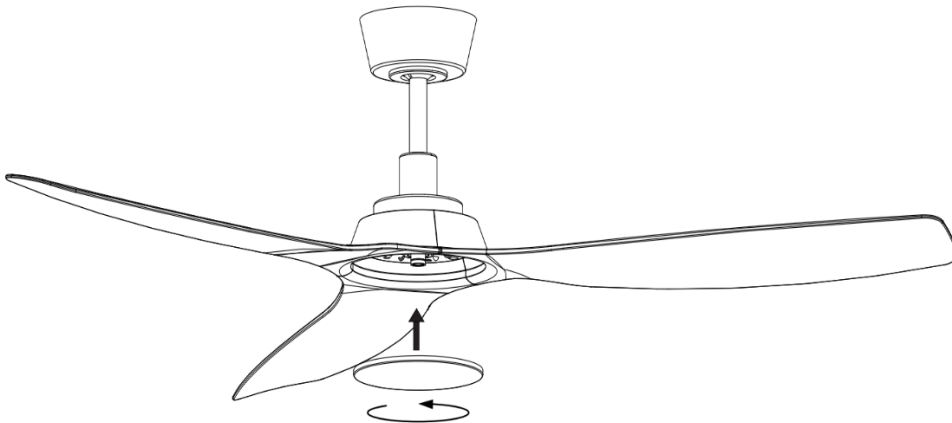

Fig. 5
**INSTALLATION OF BOTTOM COVER (Fig. 5)**